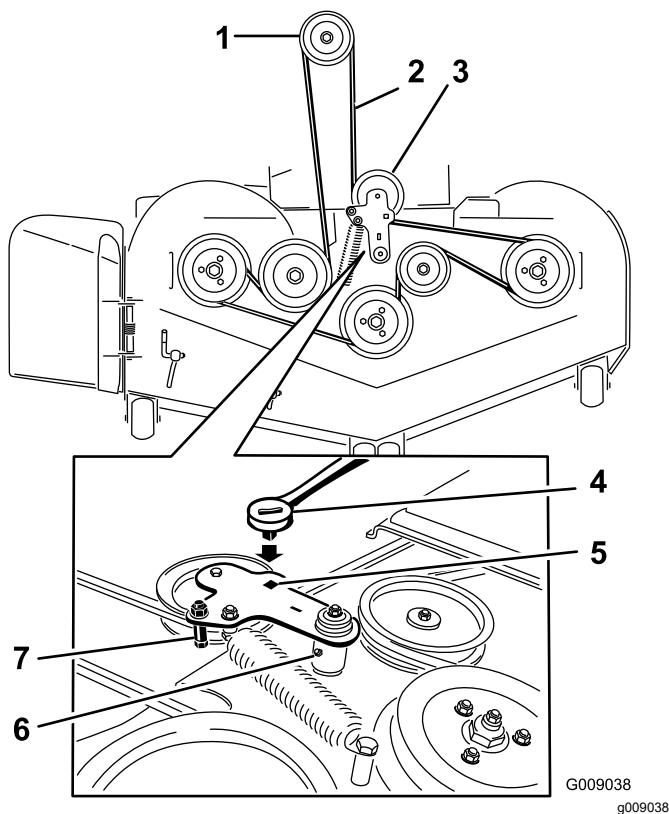

Figure 91
6. Use a ratchet in the square hole in the idler arm to remove tension on the idler spring (Figure 91).
8. Remove the belt guide on the spring-loaded idler arm (Figure 91).
10. Install the new belt around the mower pulleys and the clutch pulley under the engine (Figure 91).
11. Install the belt guide on the idler arm (Figure 91).
12. Using the ratchet in the square hole, install the idler spring (Figure 91).